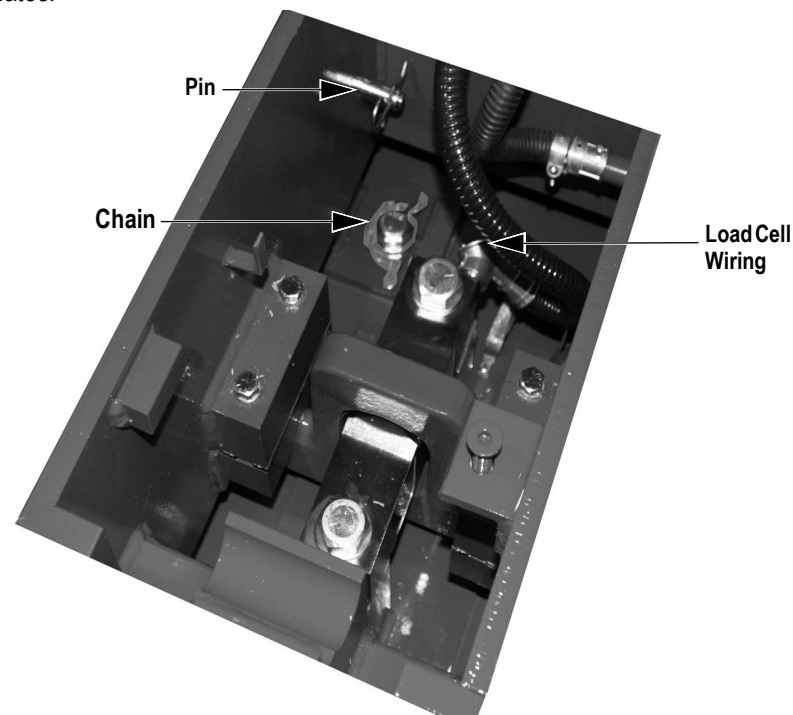

Figure 2-9. Load Cell Cover Plate Removed
2. Remove hitch pin that holds stand in retracted position (see Figure 2-9).